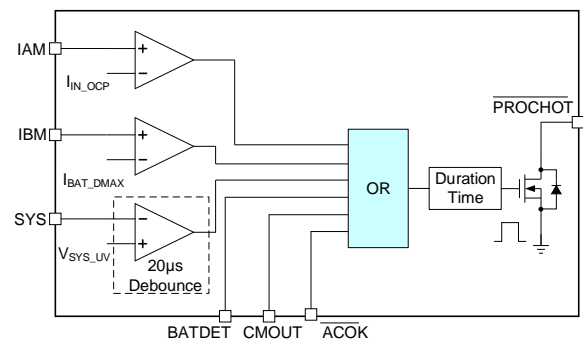

Figure 10: PROCHOT Events
The thresholds for I_{IN_OCP} , I_{BAT_DMAX} , and V_{SYS_UV} are configurable via the I²C. To set the PROCHOT assertion threshold for adapter over-current (OC) conditions, write an I_{IN_OCP} command to REG12h. If the adapter current exceeds the I_{IN_OCP} threshold, the PROCHOT signal asserts after the debounce time. The signal latches on for a minimum time, which is configured via REG0Eh (see Figure 10).